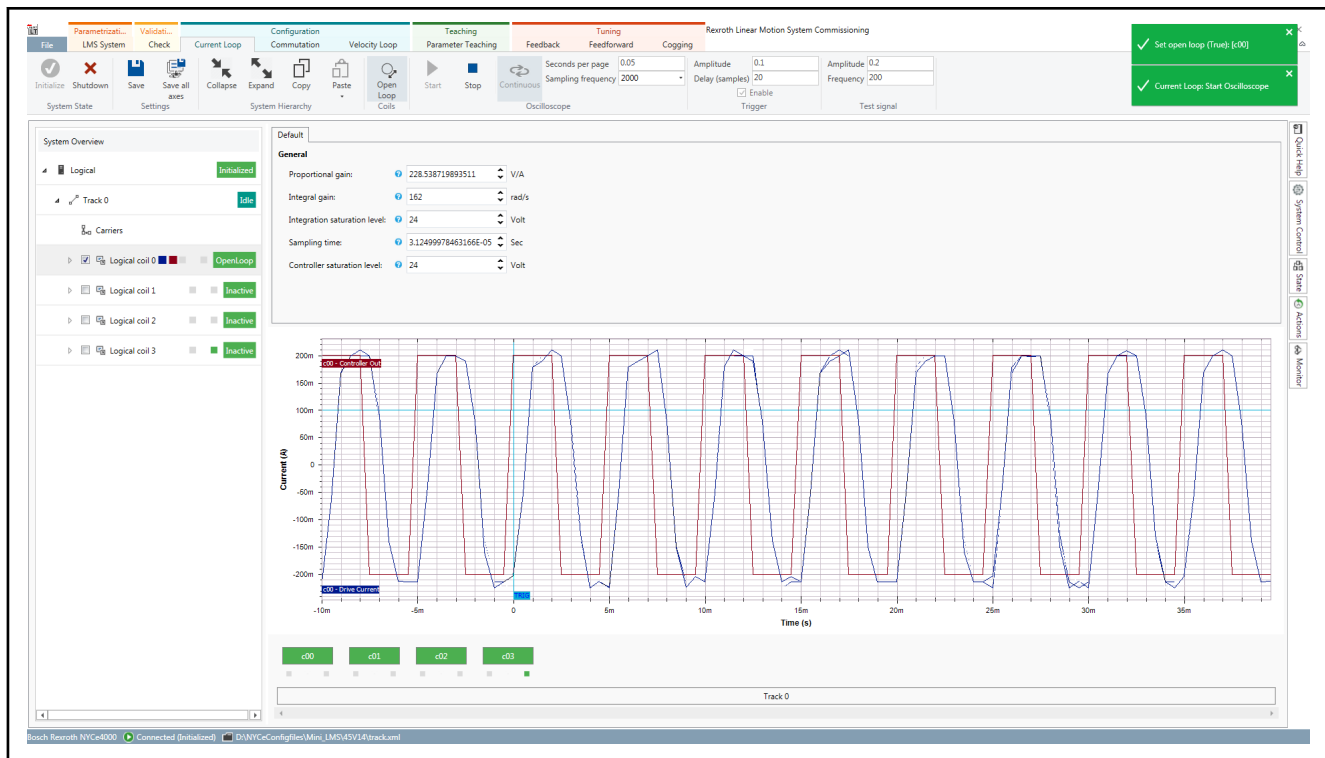

Fig. 4-15: Configuration - current loop
Click the "Current Loop" tab, see fig. 4-15 "Configuration - current loop" on page 26. You check in this section whether the current controller parameters are correct.
1. Click "Open Loop" and then click "Start" (see fig. 4-15 "Configuration - current loop" on page 26) to start the test signal and the time trace.